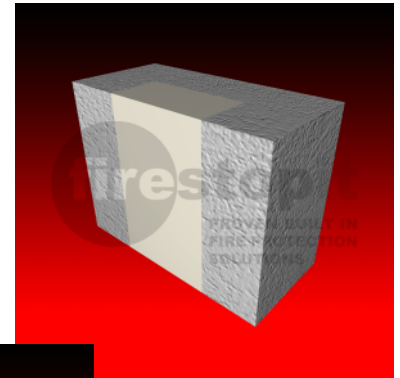

Figure 2.
5. Adequate space and accessibility should be provided for applying and tooling the sealant. A suitable backing material to control the sealant depth should be used. Bond breaker materials should also be used to prevent three sided adhesion which causes sealant failure - see Figure 2.